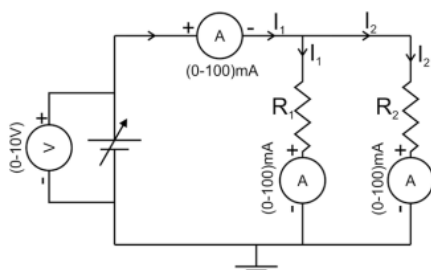

Fig P9.1
1. Make connection as per circuit diagram in Fig P9.1.